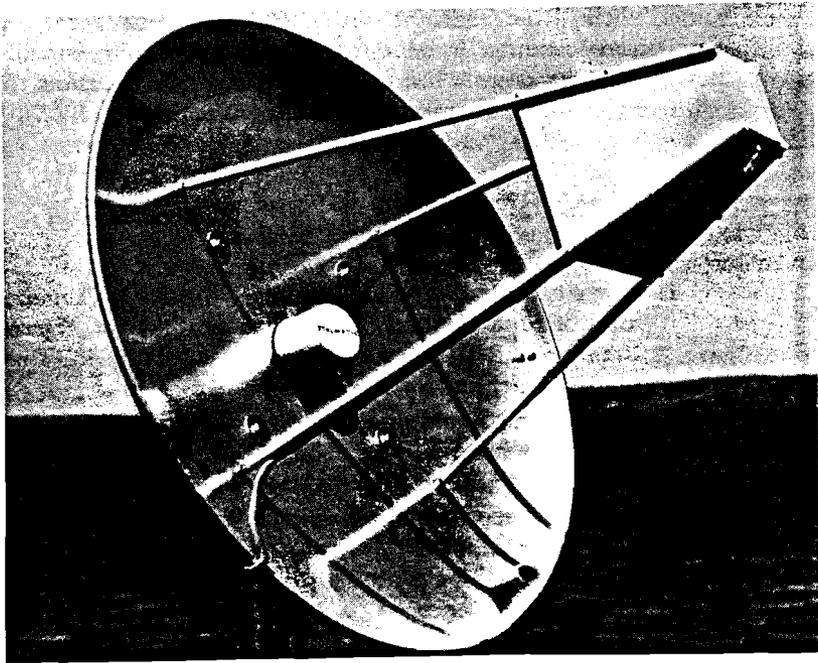

Figure 11-11. Detail View-GPX Enclosure & Standoff Dowels
Most every hardware store stocks hardwood dowels from ¼-inch (6.4-mm) diameter and up. I chose the ⅜-inch (9.5-mm) diameter dowels two years ago for my 13-inch (332-mm)-spaced Gunnplexer and 16½-inch (421-mm) spaced Gunnplexer enclosure standoff dowels illustrated in *Figure 11-11*. Both have withstood the test of
1. Use a coping or jig saw to quarter the first 6-⅞ inches (173 mm) of each standoff dowel as shown in **B** of *Figure 11-11*. Remove one of the quarters with an *Exacto* knife or thin blade pocket knife.